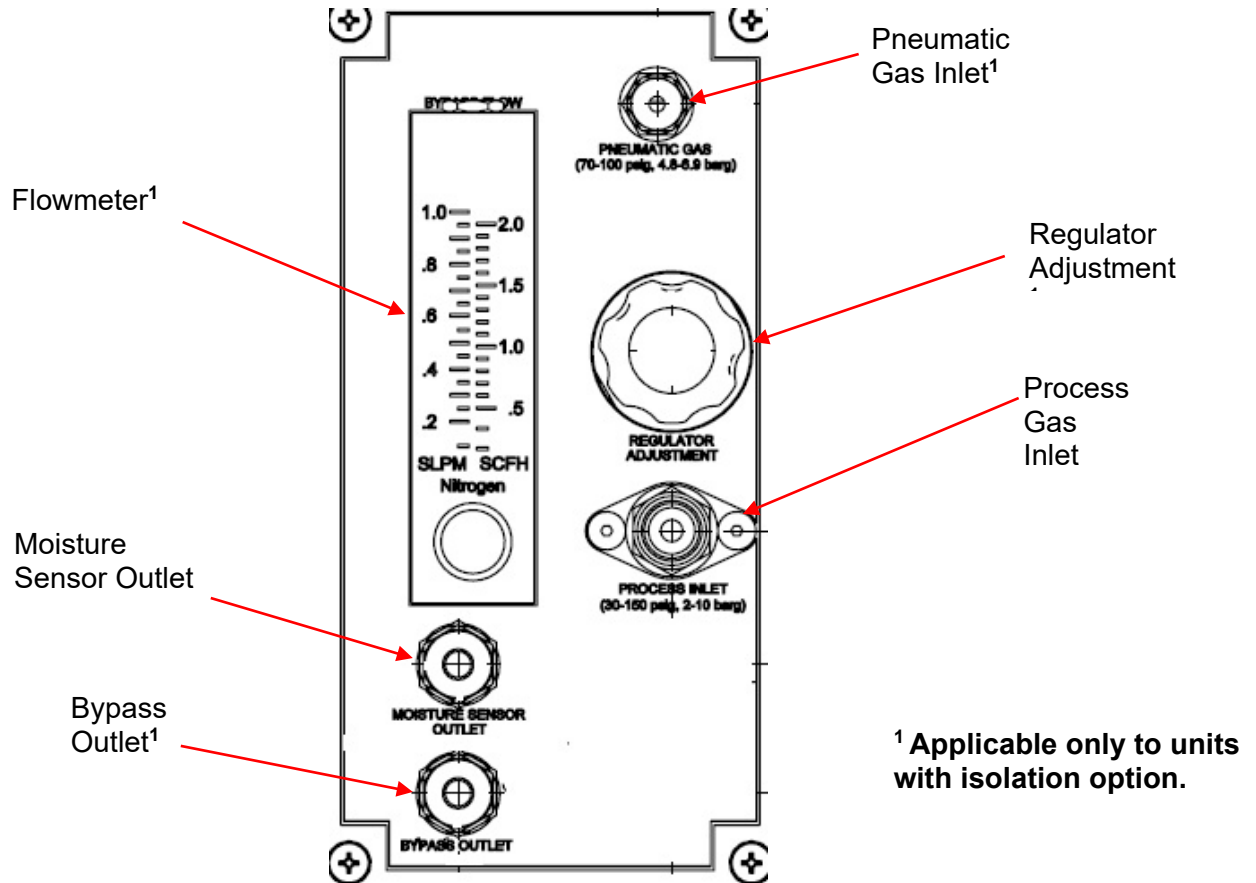

Figure 10: DF-745/749 Analyzer Gas Panel
2. If the analyzer is equipped with the optional Hydrogen Safety System (HSS), install the shut-off valve for the Hydrogen Safety System on the analyzer process gas inlet fitting. Use VCR gasket at connection point. Refer to **Figure 10** for analyzer gas connection locations.
For all DF-745/749 Analyzers, connections on the gas panel (**Figure 10**) include a ¼" VCR swivel connection for the process inlet, and a ¼" compression connection for the process outlet.
3. Adjust the analyzer's regulator (see **Figure 10**) to achieve a flow rate of 1 SLPM using the internal (front) flow meter as a reference.